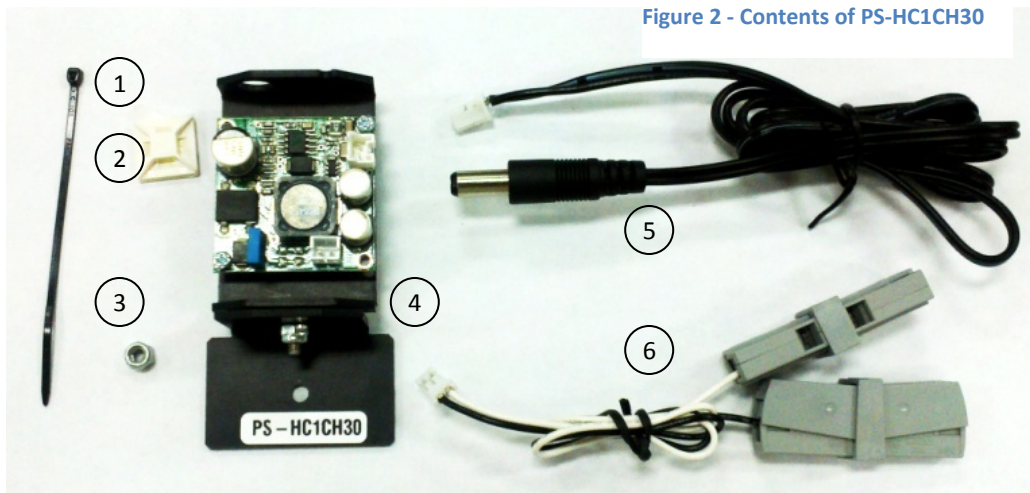

Figure 2 - Contents of PS-HC1CH30
5. Attach the 24VAC wires to the gray connectors shown in Figure 2.